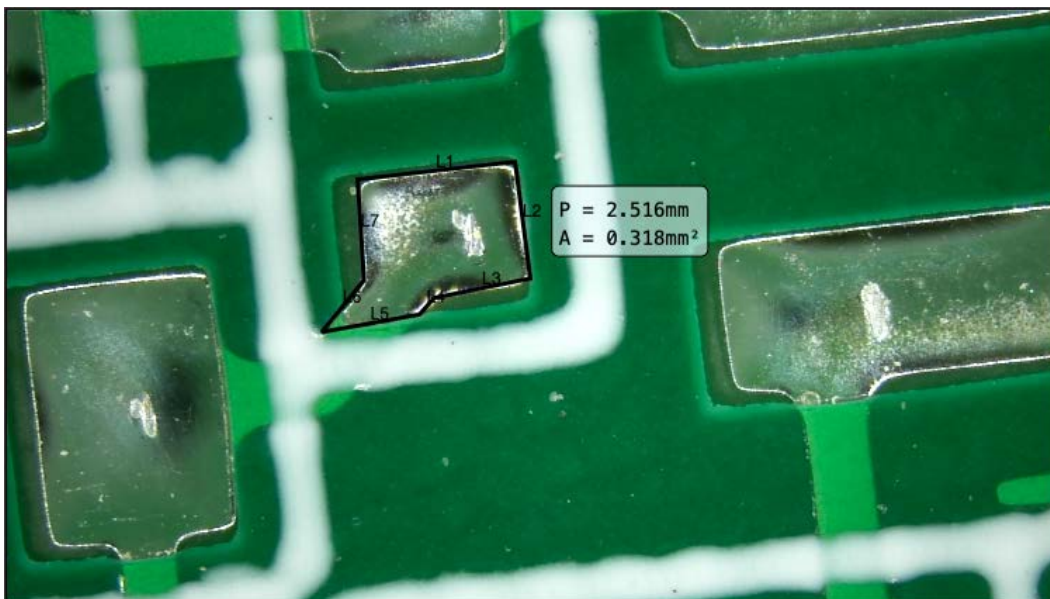

Figure 5-14 Example of polygon measurement
(12) Polygon : A polygon  is a shape that is made up of many sides and has only line segment. As shown in the figure, click on each polyline point to pull out the polygon, and right-click to end the graphic measurement, as shown in Figure 5-14.